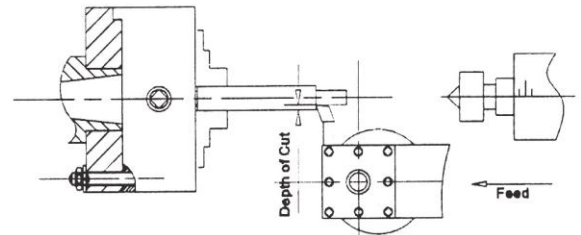

Fig.11
14.7 straight turning (Fig.11)